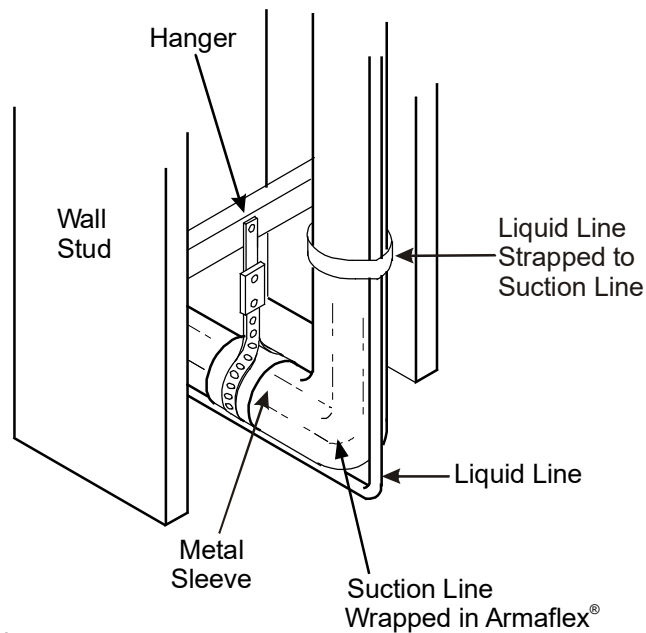

Figure 1-1
8. Vibration and Noise: In long line applications, refrigerant tubing is highly prone to transmit noise and vibration to the adjoining structure. When mounting line set to structural members, use adequate vibration-isolating hardware. For examples of proper mounting, see Figures 1-1, 1-2 and 1-3